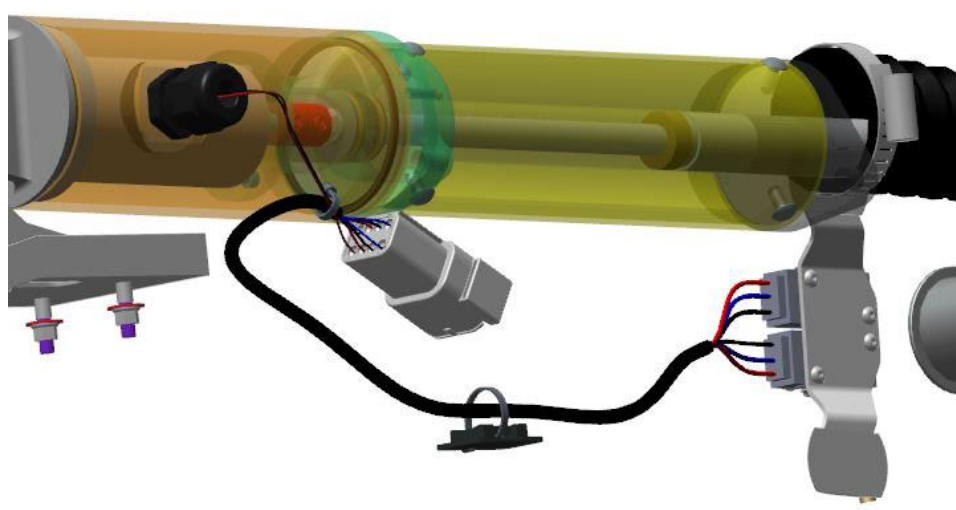

*Figure 7. Zip- tie Locations*
- (1.0 config only) Remove zip- tie securing the wiring harness to the brake line (**Figure 7.**)
- a. (1.0 config only) Secure brake line with 1 each zip-tie (TY23MX) at brake line zip-tie location. Secure harness with 1 each zip-tie (TY23MX) at harness location (See **Figure 7**). Reinstall the removed zip-tie that secures actuator connector.